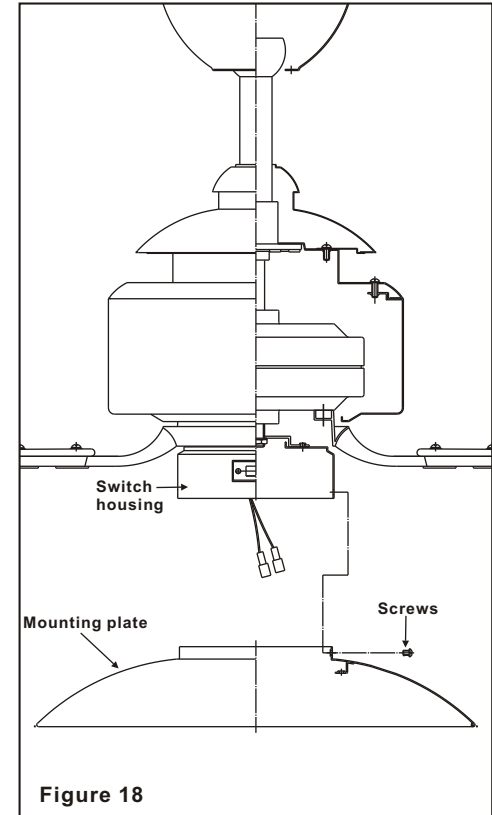

Figure 18
**Step 4.** Carefully push all wires back into the switch housing, then install the mounting plate onto the switch housing with 3 screws provided. Be sure to tighten all screws. (Fig. 18)